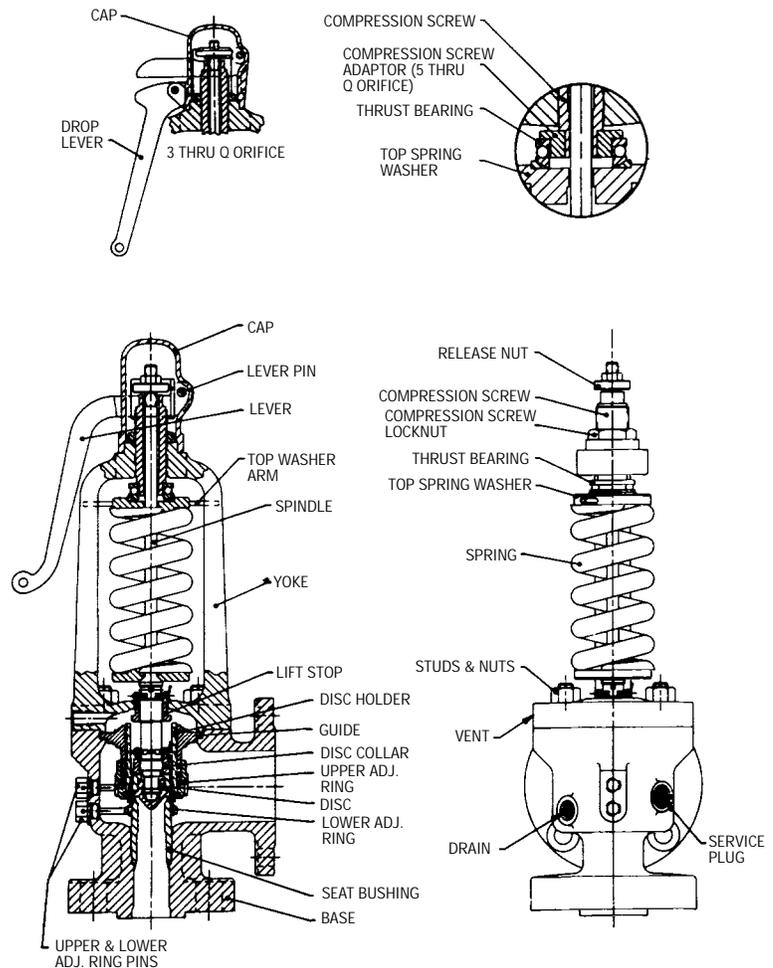
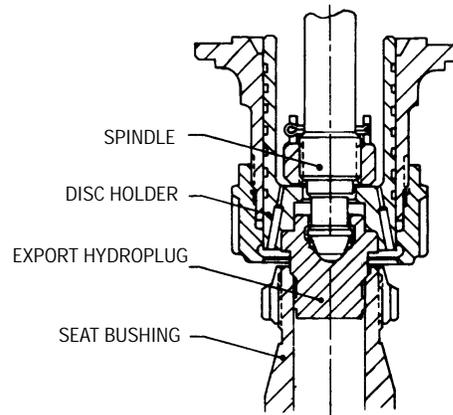

FIGURE 5
FIGURE 6
All valves shipped outside the continental United States are shipped with an export hydroplug (See Fig. 6). All welded inlet valves shipped within the continental United States are shipped with a domestic hydroplug (See Fig. 5), unless the customer specifically requests otherwise. All flanged inlet valves shipped within the continental United States are shipped without a hydroplug, unless one is specifically requested by the customer.
1. Refer to Figure 5 on page 16. Remove top lever pin and top lever, then loosen the cap screw. Remove cap and drop lever as an assembly. The release nut is fixed to the spindle by means of a cotter pin. Note that the release nut does not quite engage top of compression screw.